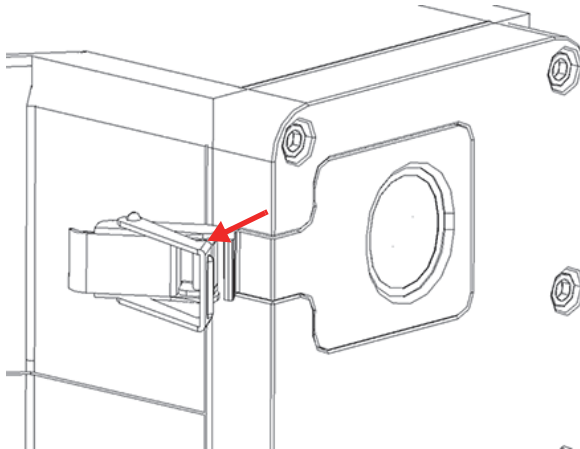

Figure 4-3 Faceplate latch fully open
4. Pull out the front of the latch to fully open the faceplate latch (Figure 4-3 on page 62).